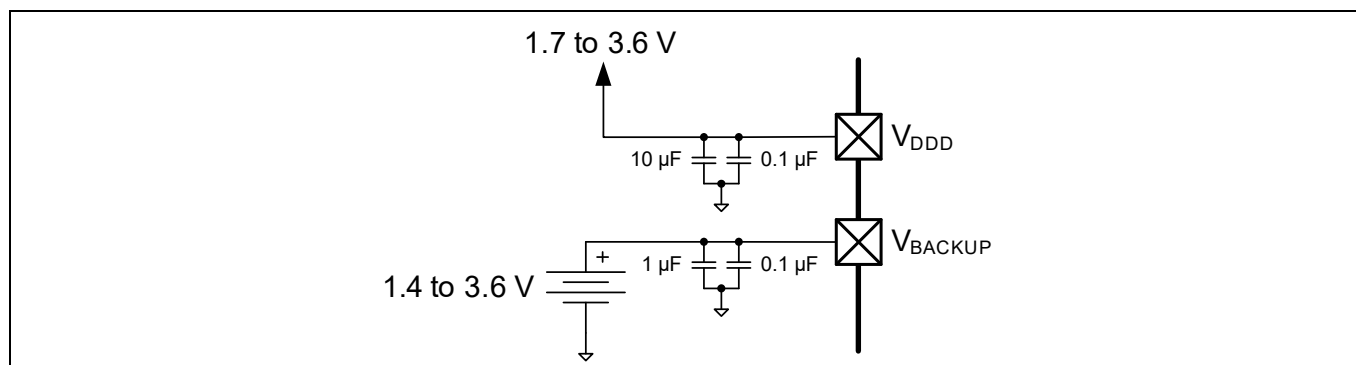

Figure 16 Separate Battery connection to V_{BACKUP}
- V_{BACKUP} : the supply for the backup domain, which includes the 32-kHz WCO and the RTC. It can be a separate supply as low as 1.4 V, for battery or supercapacitor backup, as **Figure 16** shows. otherwise it is connected to V_{DDD} . It powers I/O port 0.